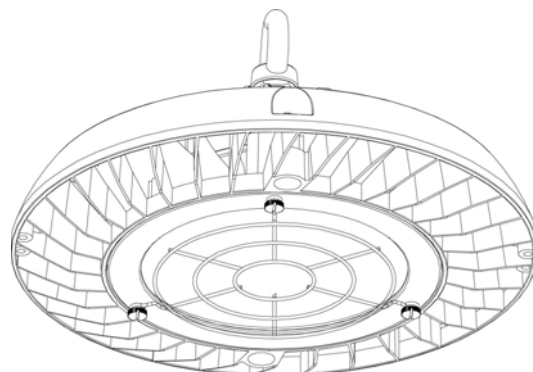

Figure 2
1.3 Reinstall screws to secure wire guard (see Figure 2). (Note: do not over tighten screws, could damage wire guard).